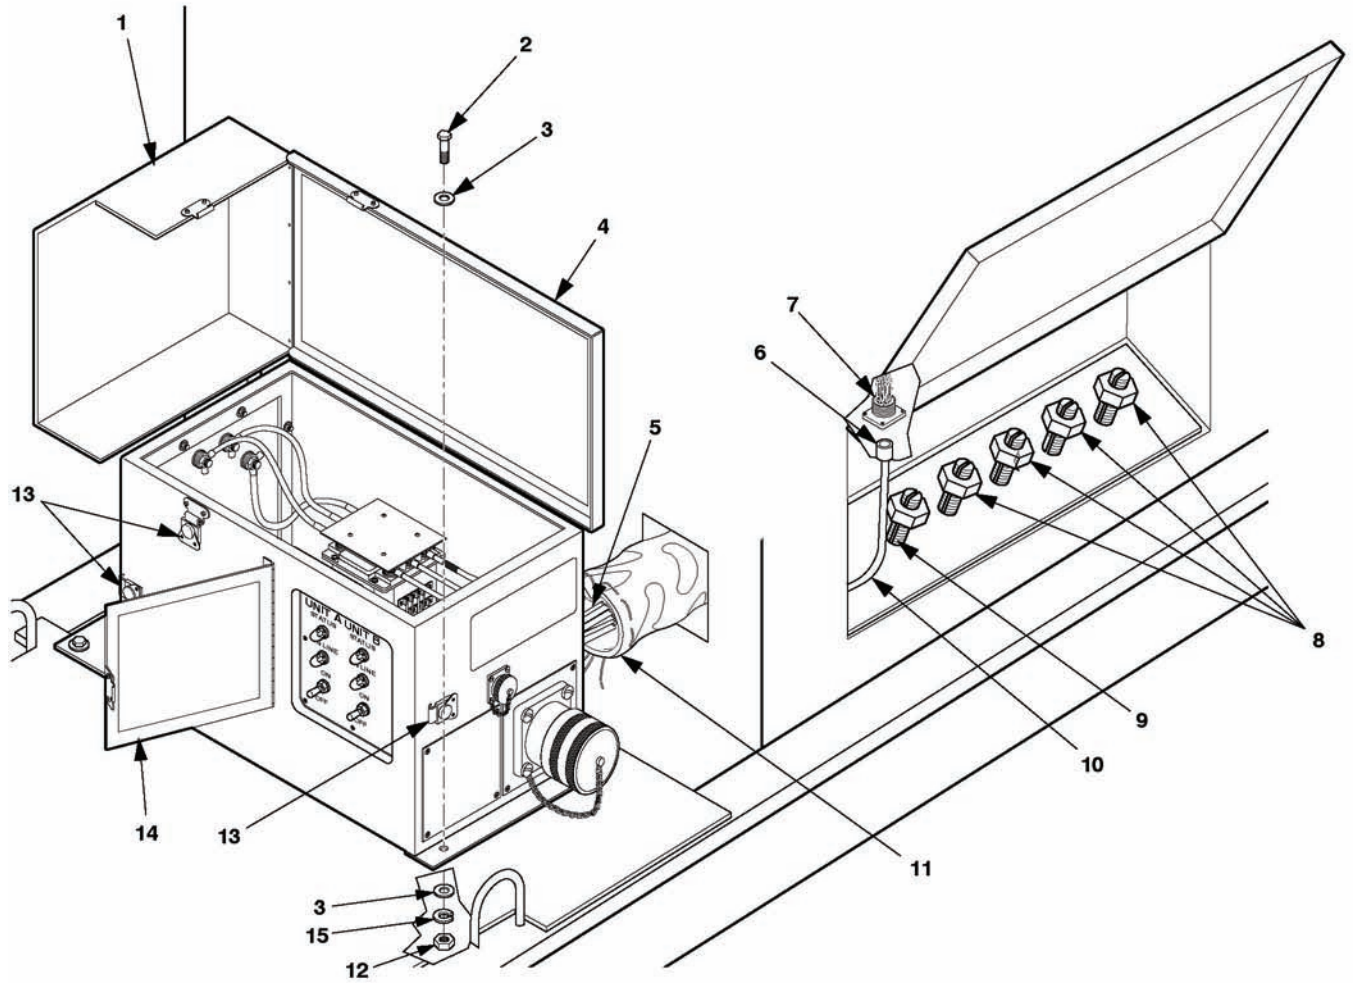

Figure 4-10.2. Switch Box Assembly Maintenance (Typical B&C Models)
1. Remove nuts (12, figure 4-10.2), lock washers (15), flat washers (3), and cap screws (2) that secure the switch box assembly. Discard lock washers (15).
2. Disconnect L1, L2, L3, and N from the generator set load terminals (8).